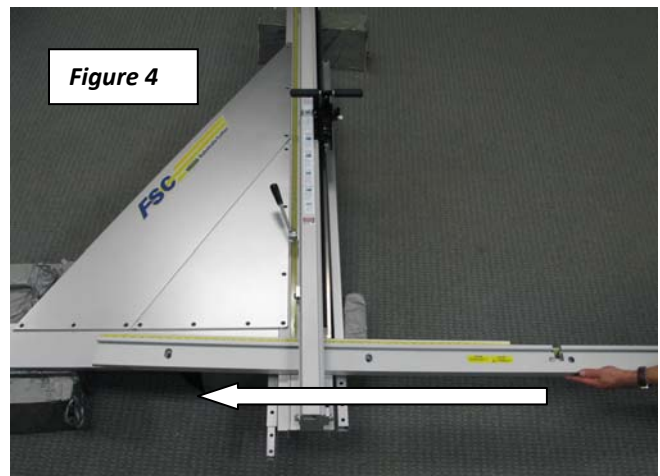

Figure 4
4. Locate the Horizontal Material Bar (item #5), and slide it over and through the Vertical Track Assembly from right to left, as shown (Figure 4).